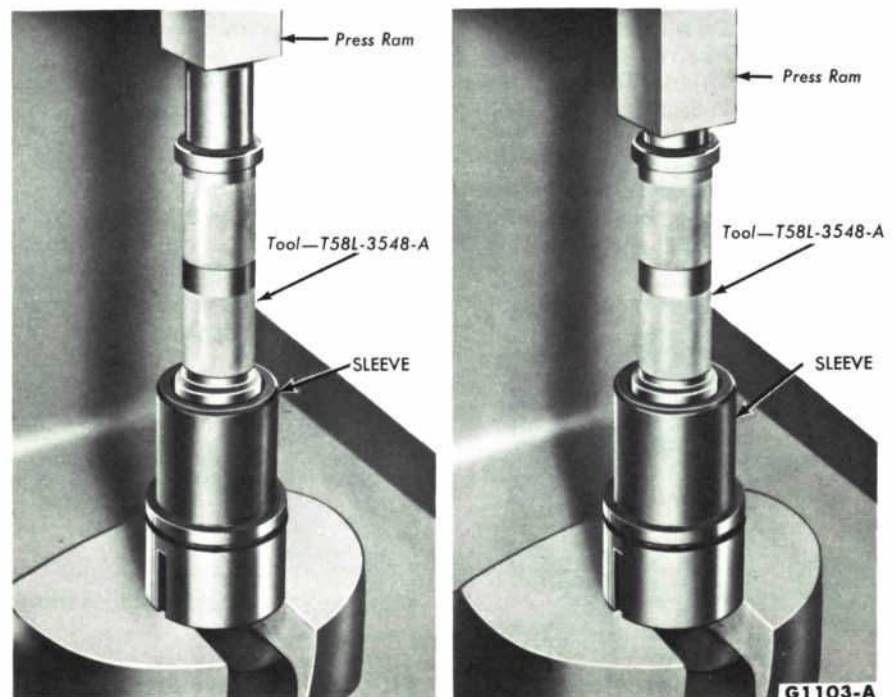

FIG. 54— Sleeve Bearing and Seal Installation
11. Install the sleeve bearing in the sleeve, using the tool shown in Fig. 54. The bearing must be pressed in so that there is a specified clearance between the upper surface of the bearing and the seal seat surface of the sleeve. To install the seal, use the tool shown in Fig. 54. Install the snap ring and check the bearing rotation. Lubricate the parts with automatic transmission fluid.